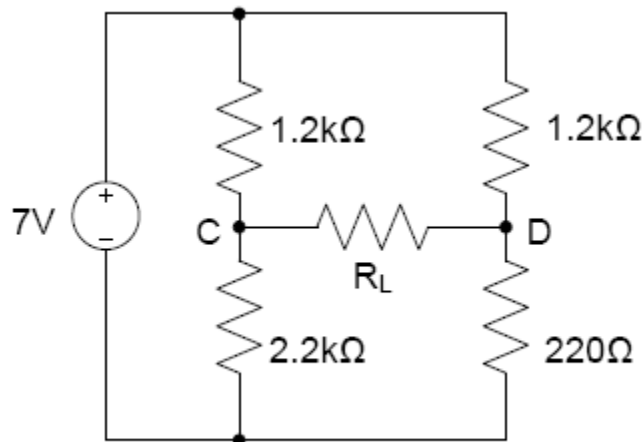

Figure 3
6. Build the circuit shown in Figure 3 *leaving out the resistor labeled R_L* for now.
- Now, “unshort” terminals **A** and **B** and reconnect the power supply (thus restoring the circuit in figure 3). For 3 different values of $R_L=220.$, $1.2k.$, and $2.2k.$, install the resistor and measure the voltage across and the current through R_L .
14. Attach the oscilloscope channel across points C and D (on figure 3). This is the system output. Disconnect the power supply, and instead attach points A and B to the function generator. This will apply an AC, rather than DC input to the system. Attach a second oscilloscope channel across points A and B.